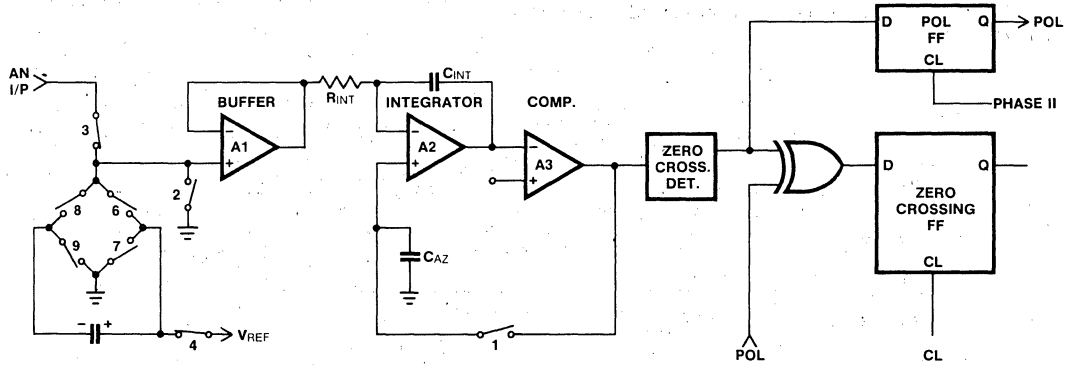

Figure 4B: Phase II Integrate Input
2. Input Integrate Phase II Fig. 4B.